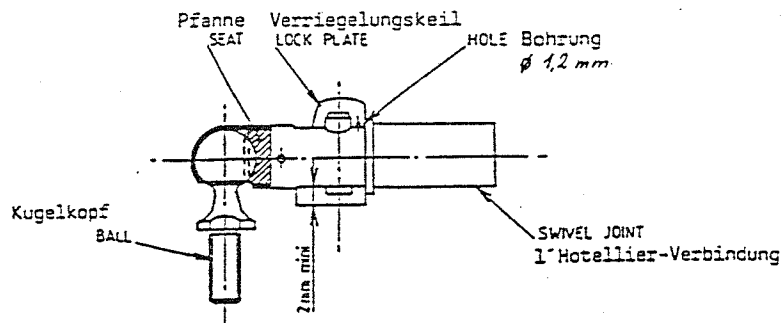

figure 1
- 1) If the joints are not yet equipped with safety pins (e.g. 1'H 140-31 made by Hotellier), these safety pins have to be retrofitted. In certain cases it may become necessary to rebores the hole in the lock plate, which is provided for visual inspection, to $\phi 1.2$ mm so that the safety pin can be inserted (see figure 1).